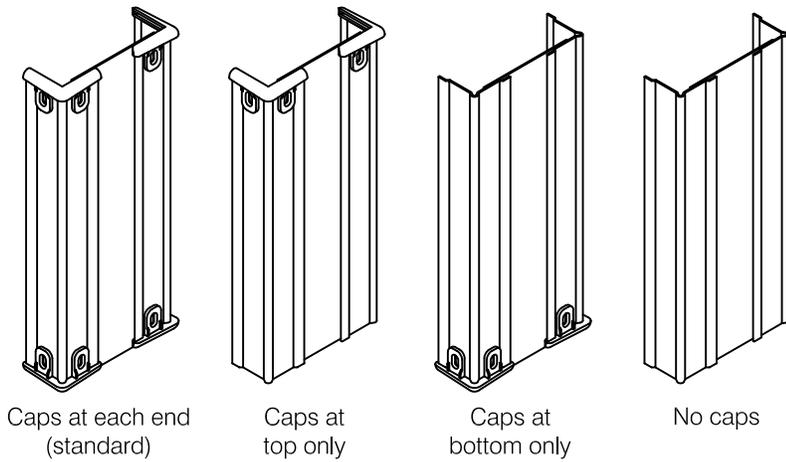

fig 1
- Step 1:** This series of end wall guard is available with molded closure caps. While the installation of caps at each end is considered standard, this product be installed with no caps or with caps at either end, see **fig 1**.